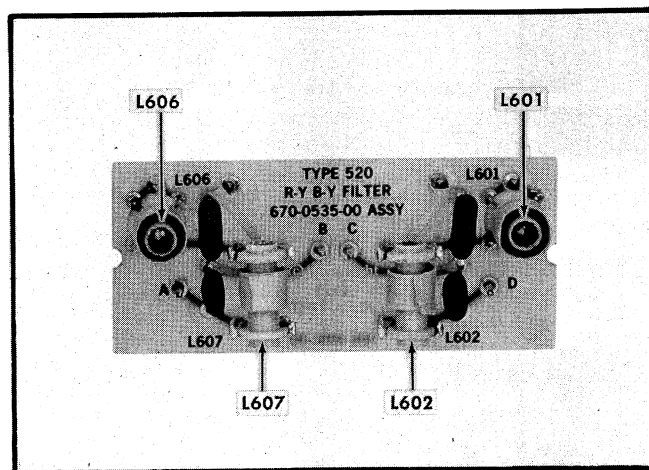

Fig. 6-22. R-Y, B-Y filter board adjustment locations.
v. ADJUST—L606 and L607 located on the R-Y, B-Y filter board, see Fig. 6-22, for best leading edge and flat top on the displayed color bars.
y. ADJUST—L601 and L602, see Fig. 6-22, for best leading edge and flat top on the displayed color bars.